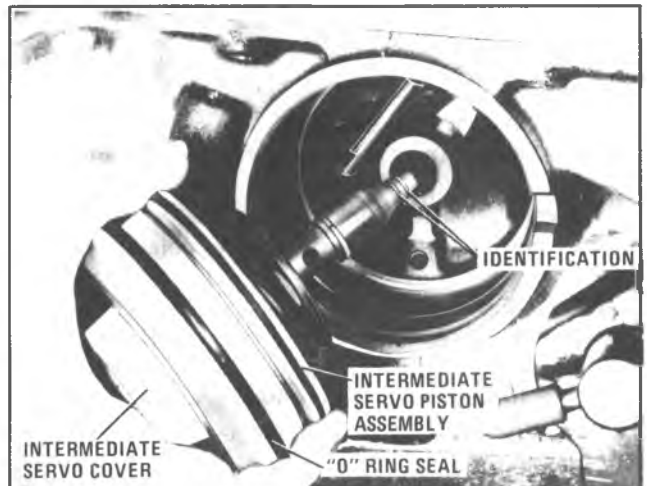

Fig. 7A-149A—Installing Intermediate Servo Into Case
7. Install intermediate servo assembly into case, Fig. 7A-149A.
8. Using two oil pan bolts, install J-28653 on case and depress servo cover, as in Fig. 7A-150A.
Low and Reverse Clutch Housing to Case Cup Plug and Seal (Fig. 7A-151A)